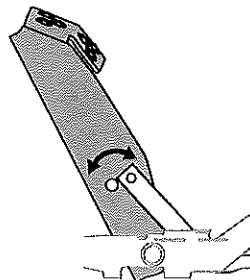

Figure 38
3. Position the pedal to the optimal position based on operator preference. See Figure 38.